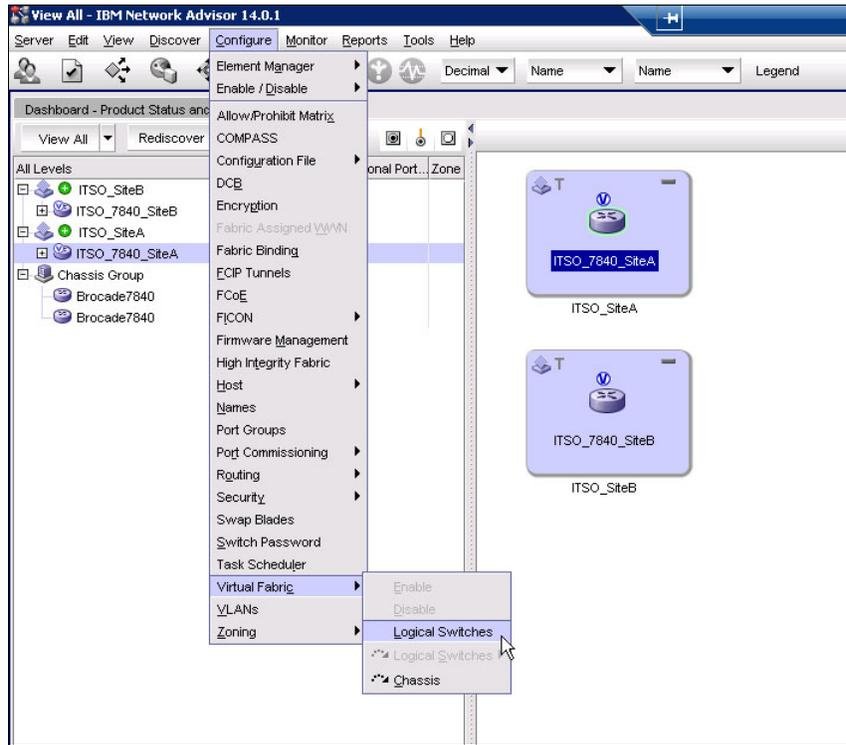

Figure 6-3 Menu for logical switch configuration
2. To create a logical switch, select **Configure** → **Virtual Fabric** (Figure 6-3).